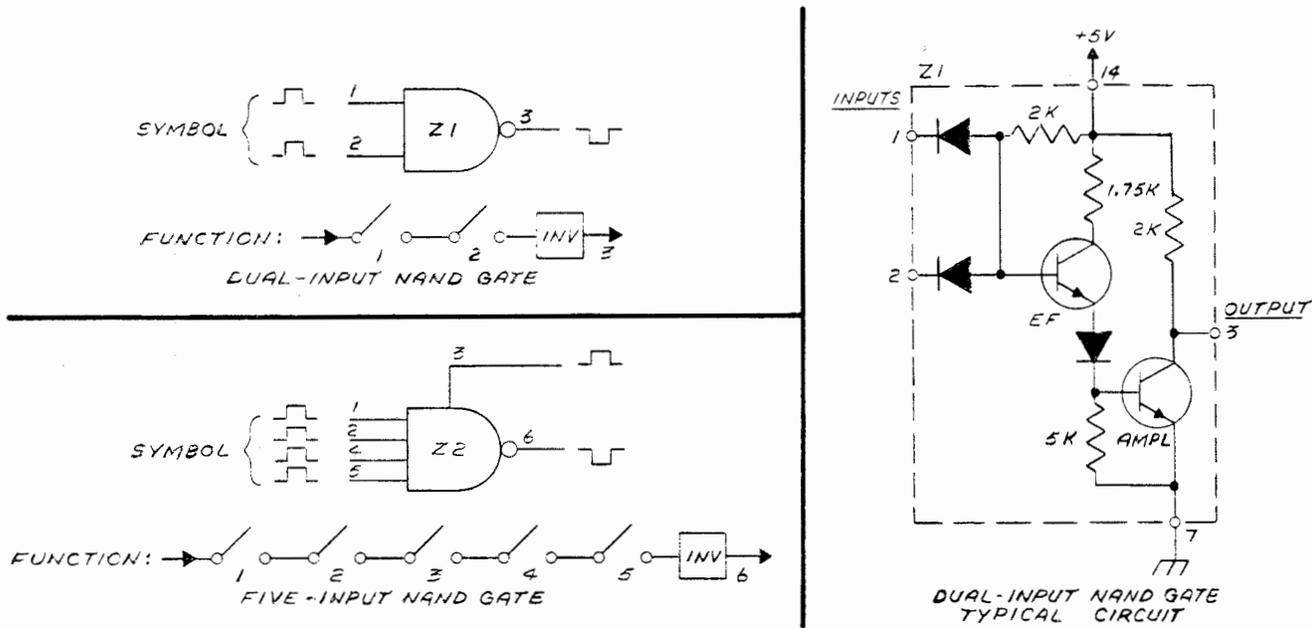

Figure 4-16. Digital NAND Gates, Functional Diagram
(b) NAND GATES. (See figure 4-16.) - The synthesizer module and other modules in the exciter employ NAND gates with from two to six input circuits. By definition, a NAND gate is an AND gate with the output pulse inverted (NOT AND). It has more than one input but only one output, and an output occurs only when all input signals are present simultaneously. Actually, this last statement is true only for certain operating conditions. In the sense of positive logic, where a logical "0" is a low or ground termination and a logical "1" is a high or +5 vdc termination, a low (inverted) output can occur only when all inputs are high at the same time. Conversely, any combination of low and high inputs will always produce a high output. For some circuit applications, only one input (of a two input NAND gate) is used and the other input is open circuit (NC). In this manner, the internal gate-amplifier is used as a functional buffer amplifier whose output is an inversion of the input signal. Gating in the logical sense does not occur.
With reference to figure 4-16, note that functionally the NAND gate resemble a series circuit containing switches (an AND gate) followed by an inverter. When all switches are closed, a low output appears. Opening one or more switches, therefore, will produce a high output. Therefore, a closed switch is analogous to a high gate input, and an open switch is similar to a low gate input.